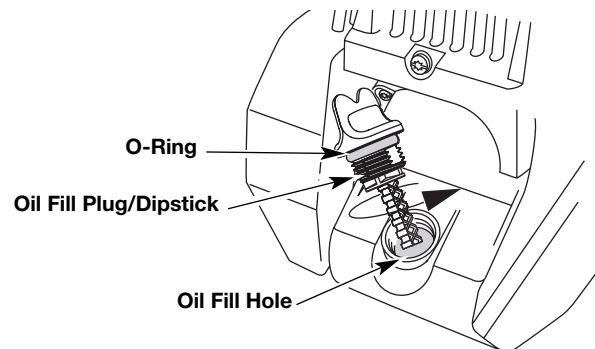

Fig. 25
6. If the level is low, add a small amount of oil to the oil fill hole and recheck (Fig. 25). Repeat this procedure until the oil level reaches the top of the dipstick.
NOTE: Make sure the O-ring is in place on the oil fill plug/dipstick when checking and changing the oil (Fig. 25).